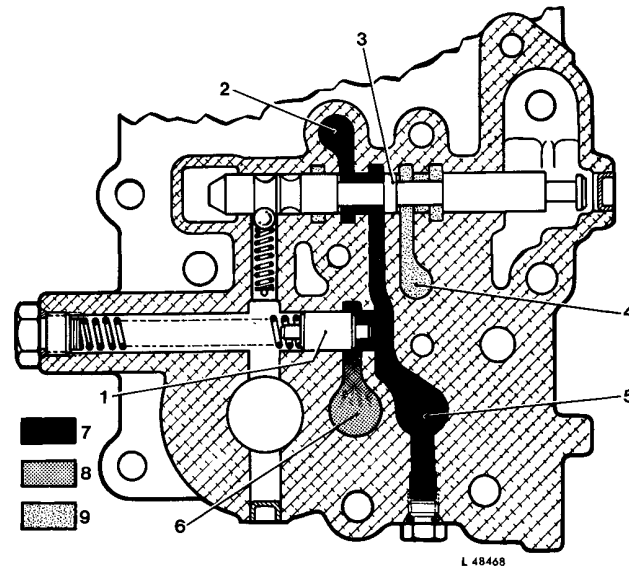

Fig. 2 — Operation of HIGH-LOW Control Valve Assembly
A pressure regulating valve located in the control valve unit (see item 1, fig. 2) maintains the oil pressure required for clutch or brake pack operation (see Specifications). As little oil only is required for operating the disk packs, the main oil stream flows past the pressure regulating valve 1, through by-pass 6 to the relief valve in the right-hand side of the clutch housing.
The control valve assembly in the transmission shift cover (see fig. 2) contains a control valve 3 and a pressure regulating valve 1.